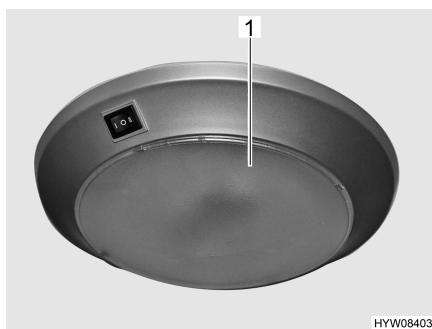

Fig. 88 Ceiling lamp
- Carefully unclip and remove the transparent plastic insert (Fig. 88,1).